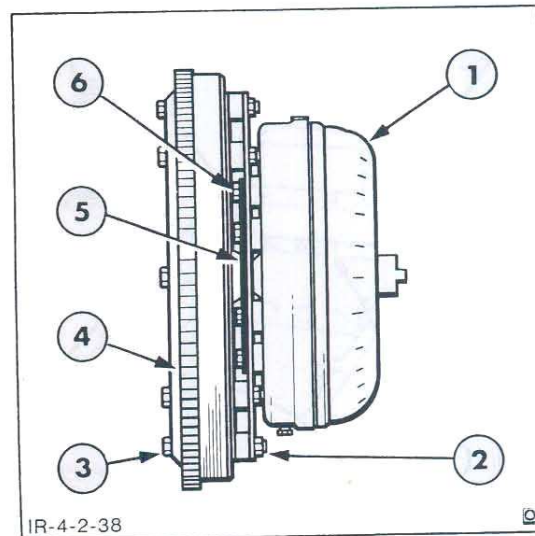

Figure 75
The torque converter, Figure 75, is a welded unit and cannot be disassembled. The only maintenance performed on the converter, other than the stall test covered in Chapter 3, is cleaning and visual inspection. A commercial torque converter cleaner may be used to clean the converter. However, if a commercial cleaner is not available, the converter should be cleaned as outlined below.
1. If not previously drained, remove the drain plug, Figure 75 and drain as much oil as possible from the converter by tilting the converter in all directions.
Inspect the splines Figure 75 on the converter hub for wear or damage and the weld joints for cracks. If the hub is worn or damaged and/or the weld joints cracked, a new converter should be installed. A new drive plate should also be installed if it is warped.